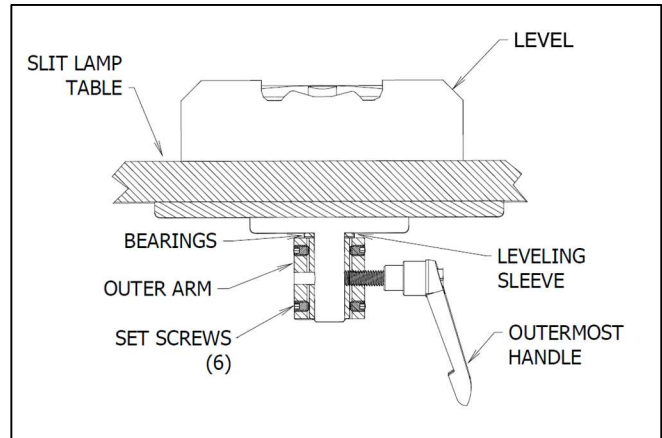

FIGURE 7
2.11.1. When attaching an instrument to the Slit Lamp Arm, note the Thrust Bearing which should be in place between the instrument and the arm. See Figure 7.
4.1.5. The outer end of the Slit Lamp Arm contains a Leveling Sleeve and six set screws for field re-leveling of the Instrument, if necessary. A hex key wrench (1/8) and a small, accurate level will be required. Remove the Instrument from the table and refer to Figure 7. The outermost Handle must be threaded into the Leveling